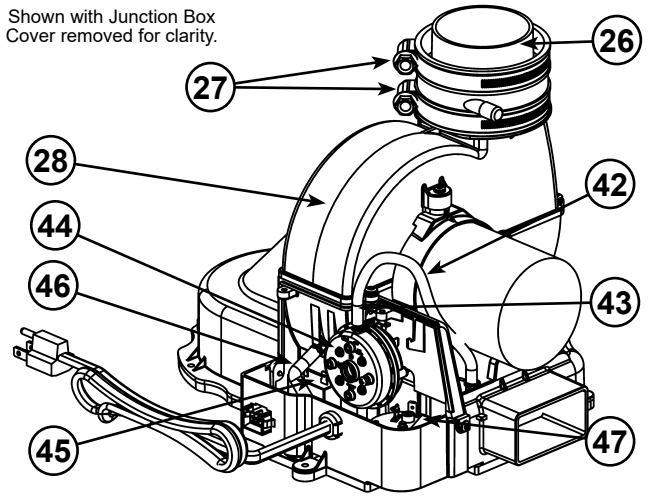

Figure 60.
- 26 \*\*\*\*Rubber Coupling (see Figure 5) (see also Figure 60)
- 27 Gear Clamp (see Figure 5) (see also Figure 60)
- 28 \*\*\*Blower with Power Cord (see Figure 5) (see also Figure 60)
- 42 Air Tubing (Intake) (see Figure 5) (see also Figure 60)
- 43 Blower High Limit Switch (see Figure 5) (see also Figure 60)
- 44 Intake Air Pressure Switch (NC) (inside box) (see Figure 5) (see also Figure 60)
- 45 Capacitor (see Figure 5) (see also Figure 60)
- 46 Air Tubing (Exhaust) (see Figure 5) (see also Figure 60)
- 47 Exhaust Air Pressure Switch (NO) (inside box) (see Figure 5) (see also Figure 60)